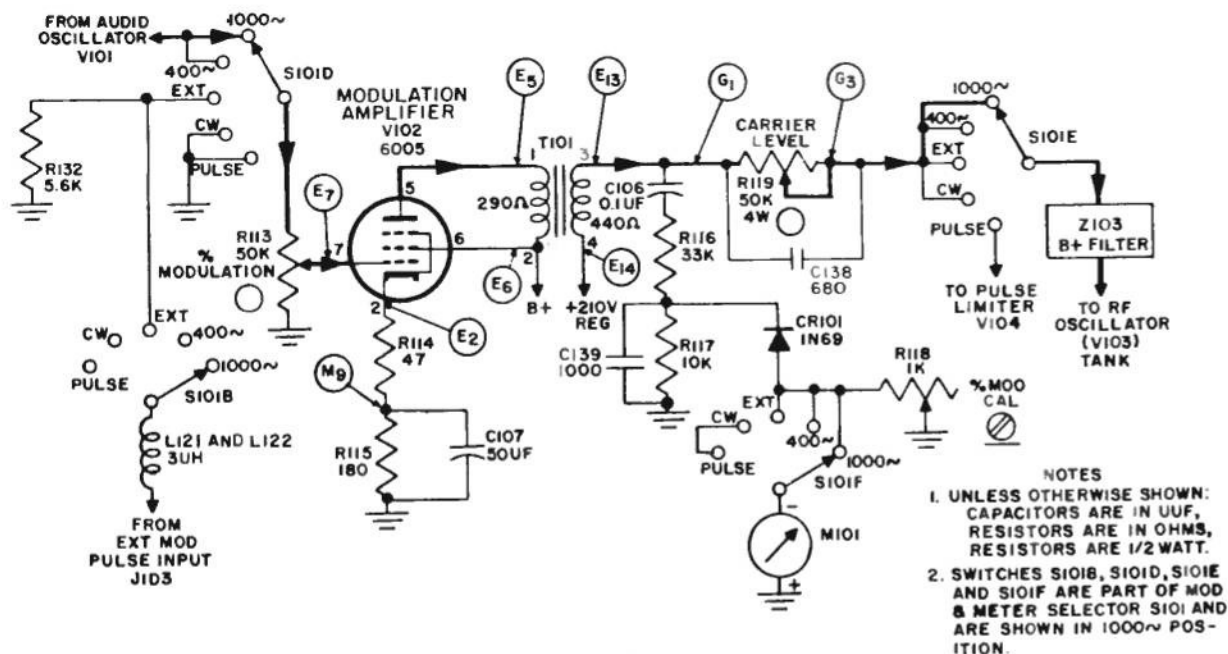

Figure 4-8. Simplified Schematic Diagram of the Modulation Amplifier and % Modulation Meter Circuit.
b. MODULATOR. — (See figure 4-8.) The input to modulator V102 is selected by switch S101D. In the 400 or 1000 cycle position, the input to modulator V102 comes from the output of audio oscillator. In the EXT position, switches S101B and S101D permit an external signal via J103, throughrf choken L121 and L122, stabilized by R132 to V102. When S101D is switched to CW or PULSE position, the modulation amplifier is shorted to ground. In other than the CW or PULSE position, the modulator provides a measurable degree of sine wave plate modulation to the rf oscillator V103 (see figure 4-8) by amplifying signal fed to the modulation amplifier input grid. The signal is then amplified by V102, passing through modulation transformer T101, through CARRIER LEVEL control R119, through S101E and Z103 to the rf oscillator coil tank. Resistors R114 and R115 provide cathode bias. Resistor R115 is by-passed by C107 to smooth out the cathode bias, but R114 (a smaller resistor) is left unby-passed to introduce enough degeneration to decrease distortion in the stage. The CARRIER LEVEL control R119 is a front panel control for setting M101 to the red line on the meter.
c. % MODULATION CIRCUIT. — Since the plate voltage of the RF Oscillator V103 (see figure 4-8) is supplied through modulation transformer T101 at a regulated 210 volts, the percentage of modulation is directly
proportional to the amount of modulating voltage introduced and is independent of the actual carrier voltage. This is explained by the fact that 100% modulation is introduced when the modulating voltage swings the instantaneous plate potential from zero to twice the dc plate voltage. Smaller modulating voltages therefore result in lower degrees of modulation. The desired percentage of modulation is selected by means of % MODULATION potentiometer R113 (see figure 4-8) and is read directly from meter M101. The modulating voltage is applied to V102 across R113. A part of the modulating voltage is taken off C106 blocking capacitor and voltage divider R116 and R117, rectified by CR101 and read by M101 when MOD and METER SELECTOR switch is in the 400 \sim , 1000 \sim or EXT position. Adjustment R119 sets the meter sensitivity by internal screwdriver adjustment when calibrating M101 for percent modulation.